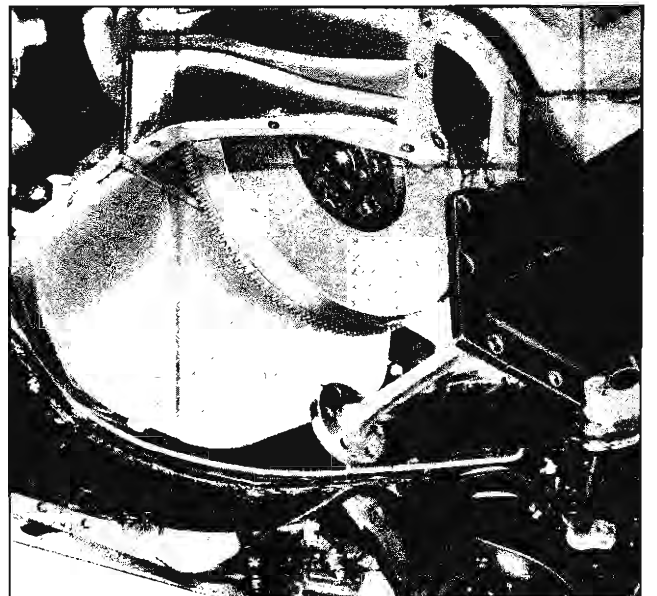

Fig. 4-17 Lowering Torque Tube and Propeller Shaft from Flywheel Housing
9. Pull torque tube and propeller shaft down and away from flywheel housing (Fig. 4-17).